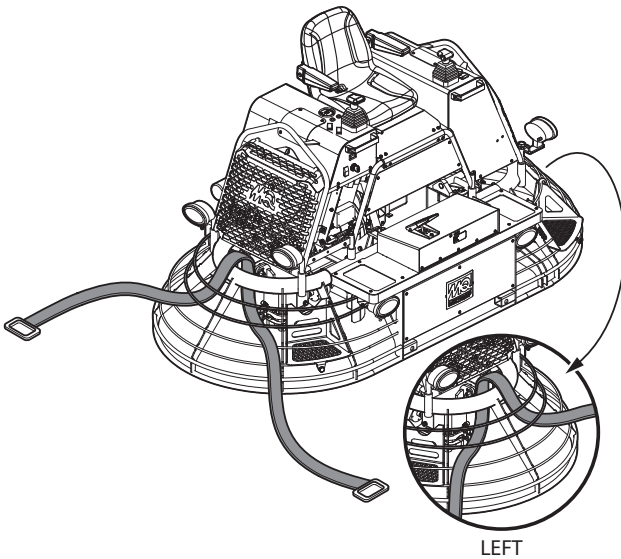

Figure 4. Routing Tie-Down Straps
1. Attach suitable tie-down straps to the trowel. Route tie-down straps on both sides as shown in Figure 4.